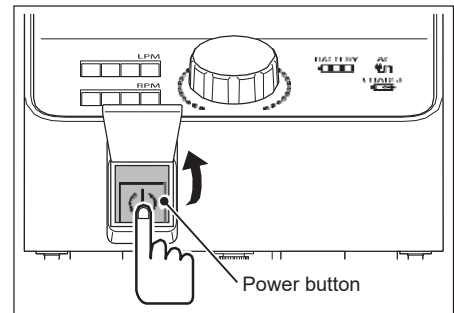

Figure 1-68
1. Press the power button. (Figure 1-68)